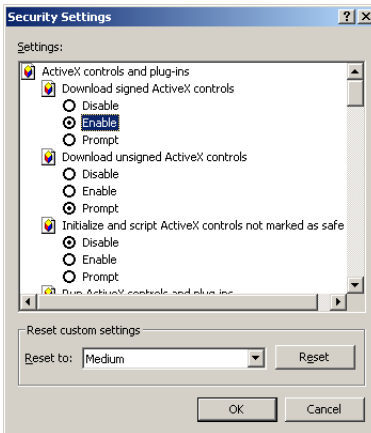

Figure 7-2 ActiveX Security Settings
9. Locate the ActiveX controls and plug-ins and select the following options (refer to Figure 7-2):